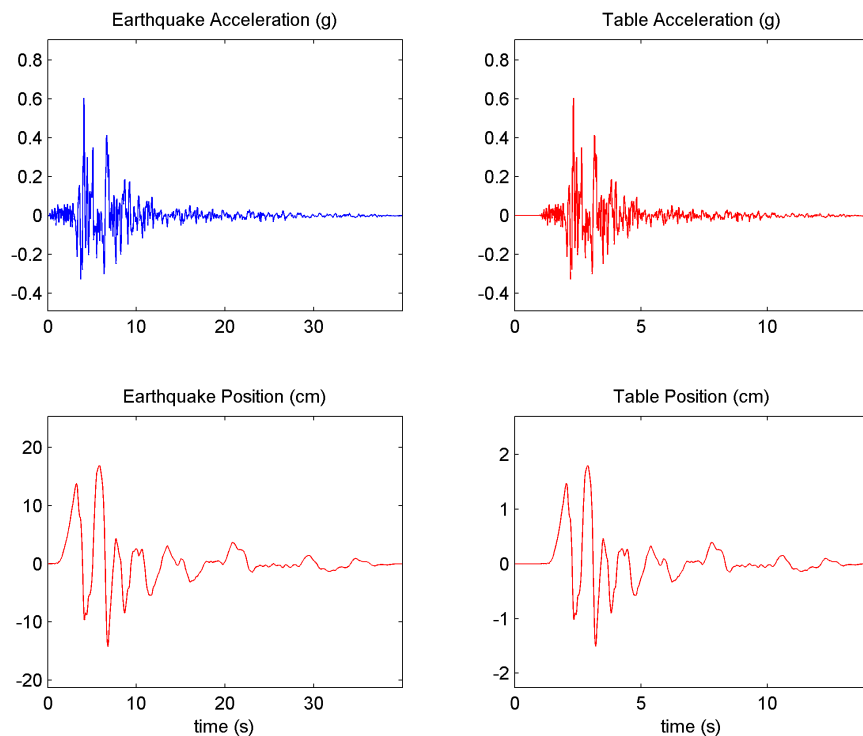

Figure 5.2: El-Centro earthquake plot created by *make\_quake.m* script
5. Run the *make\_quake.m* script (click on Debug | Run in the Editor menu bar or on the *Run* icon in the Editor tool bar) to generate the earthquake wave. This will generate a plot similar to Figure 5.2. The desired acceleration and recorded earthquake acceleration is shown in the top plot (in gravitational units) and the scaled position setpoint in the bottom plot (in centimeters).